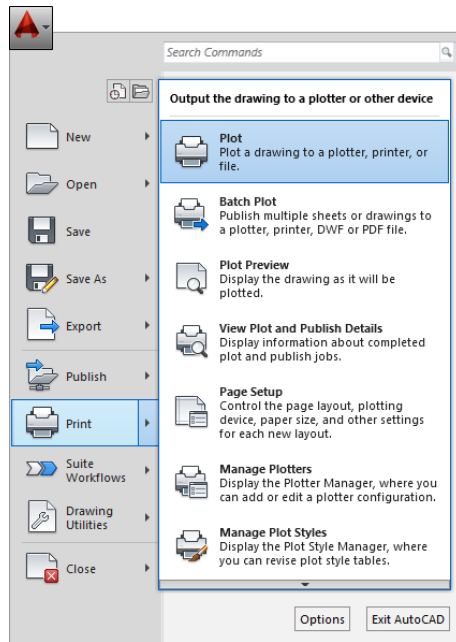

FIGURE 1.22: The Application menu showing the Print options
2. The left pane of the Application menu displays the various commands. Clicking or hovering over a command displays its options in the right pane, as shown in Figure 1.22.